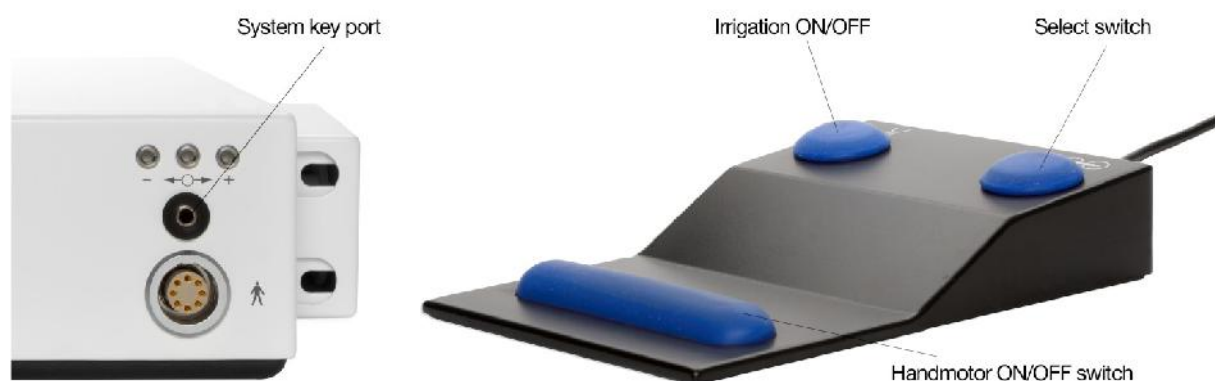

Fig. 3 + 4
2. Insert the system access key corresponding to the implant system you are going to use, into the system key port, see Fig. 3